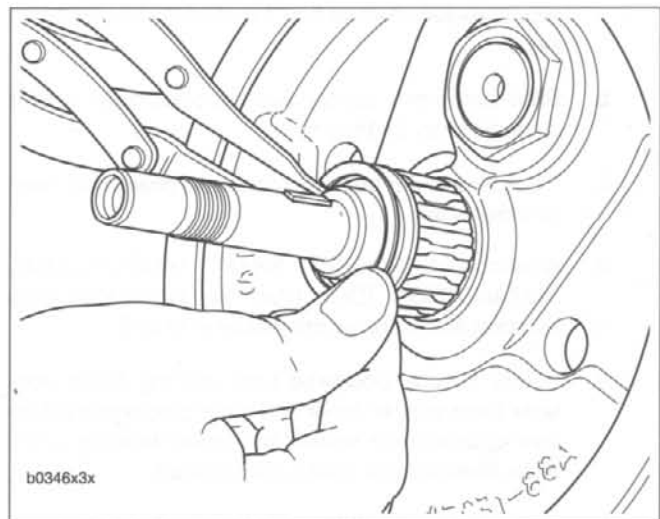

Figure 3-146. Pinion Shaft Bearing
12. See Figure 3-146. Install pinion shaft bearing.